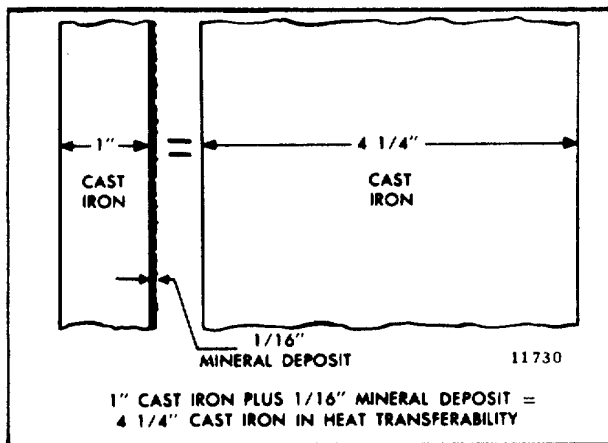

Fig. 1 - Heat Transfer Capacity
*The importance of a properly inhibited coolant cannot be overstressed.* A coolant which has insufficient inhibitors, the wrong inhibitors, or worse-no inhibitors at all invites the formation of rust and scale deposits within the cooling system. Rust, scale, and mineral deposits can wear out water pump seals and coat the walls of the cylinder block water jackets and the outside walls of the cylinder liners. As these deposits build up, they insulate the metal and reduce the rate of heat transfer. For example, a 1/16" deposit of rust or scale on 1" of cast iron is equivalent to 4-1/4" of cast iron in heat transferability (Fig. 1).
Chromate inhibitors should *not* be used in antifreeze solutions. Chromium hydroxide, commonly called "green slime", can result from the use of chromate inhibitors with antifreeze. This material deposits on the cooling system passages and reduces the heat transfer rate (Fig. 1) which results in engine overheating. Engines which have operated with a chromate-inhibited water must be chemically cleaned before the addition of antifreeze. A commercial heavy duty descaler should be used in accordance with the manufacturer's recommendation for this purpose.